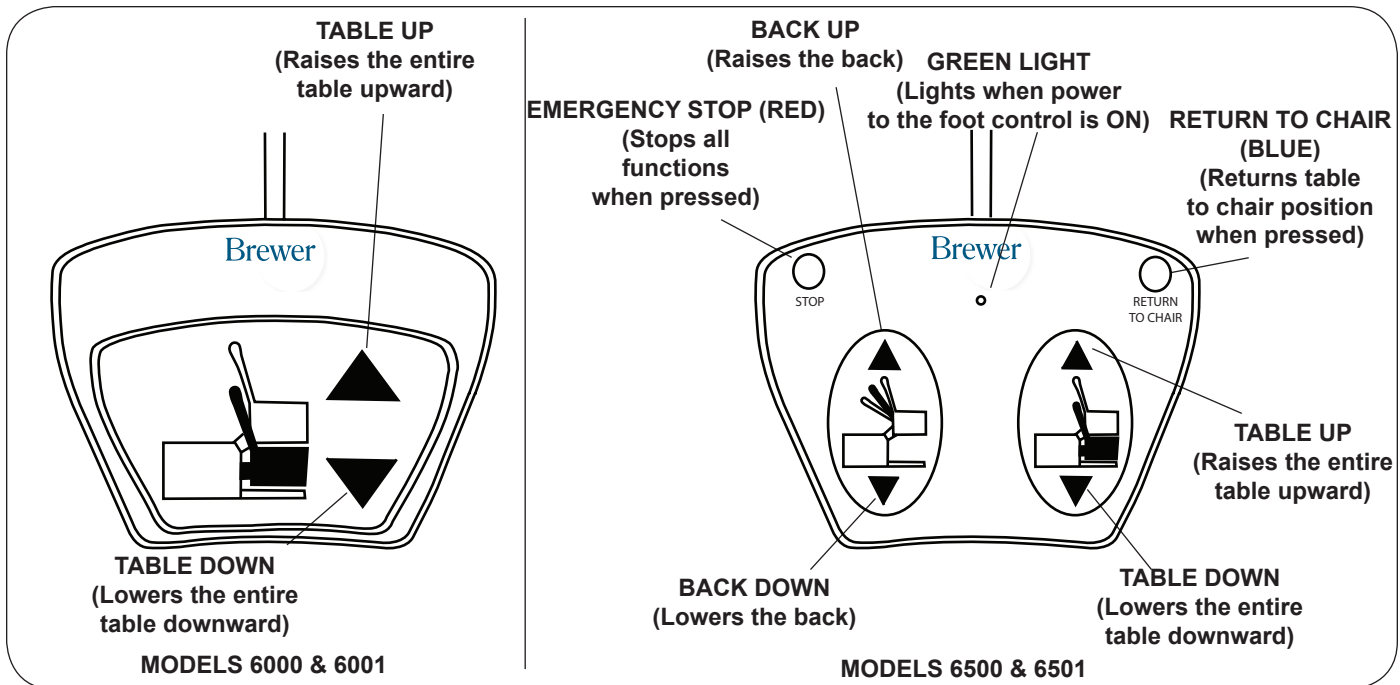

Figure 8. Foot Controls
1. To raise the table, depress and hold the Table Up pedal until the desired height is achieved, then release the pedal. (See Figure 8.)
2. To lower the table, raise the backrest to the upright position, then depress and hold the Table Down pedal until the desired height is achieved, then release the pedal. (See Figure 8.)